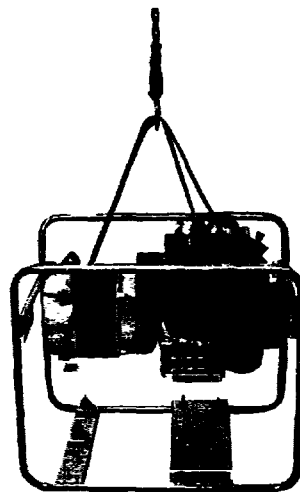

Fig. 10-8
(4) Remove the generator. (See Fig. 10-8.) Lift the generator with a chain block, and remove the frame.	Be careful of the generator balance.
(5) Remove the rubber mount. RGX405, RGX405D, RGX505, RGX505D: Remove the nuts that fasten the engine base and rubber mount. Twist the rubber mount and take it off.	Rubber mount is fastened with the nuts welded to the bottom of the frame.	13 mm spanner or box spanner